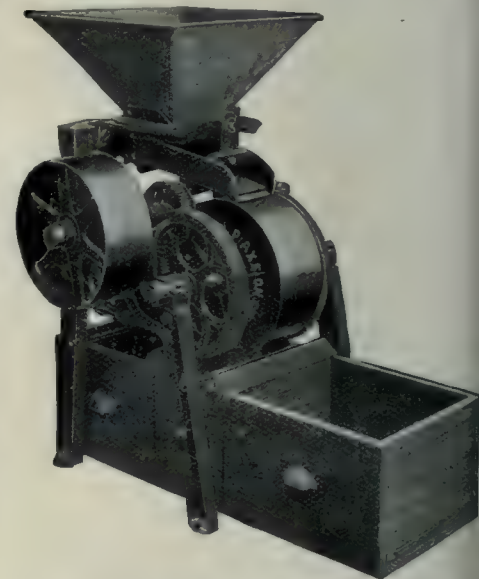

Fig. 1.—Magnetic Metal Separator. J. W. Paxson Co., Philadelphia.
The magnetic metal separator shown in Fig. 1, is manufactured by J. W. Paxson Co., pier 45 north Delaware Ave., Philadelphia. It is a simple machine, valuable for the separation of iron turnings, filings, etc., from brass, composition iron from emery, granular rubber, ores and other materials, and it is doubtless capable of various other applications.
moved, while the brass and other materials fall into the box shown in Fig. 1.
(2) The tray under the hopper should strike equally on each side, so as to distribute the stock evenly on the wheel. If you wish it to feed faster, draw the hopper forward. Place the boxes as shown in Fig. 1. The material in the middle box should be run through the second time.